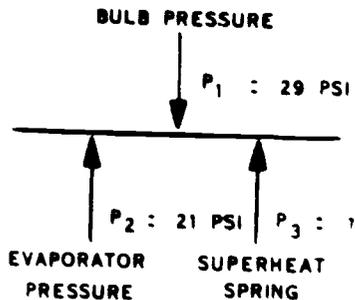

Figure 16.  $P_1 = P_2 + P_3$
**FINDING PRESSURE P1.** In order to find P1, the temperature of the thermal bulb must be converted to pressure. Referring to Figure 16, the temperature at point C is 30°. The thermal bulb temperature is also 30° and 30° = 29 PSI, P1 = 29 PSI.
**FINDING PRESSURE P2.** Pressure P2 is 21 PSI (see Figure 16).